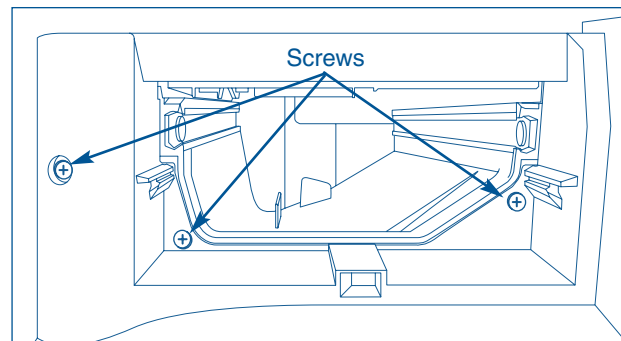

Figure 4-24.
2. Using a #2 square bit screwdriver, extract the three screws from the detergent drawer area (See Figure 4-24)